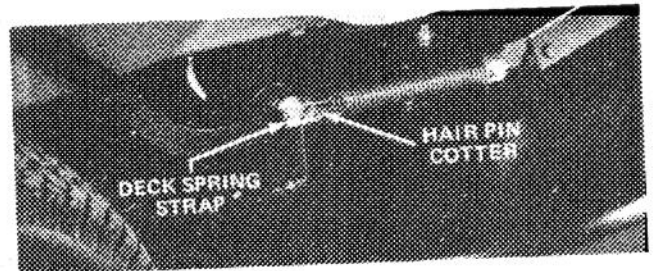

Figure 29
2. Set cutting unit down in lowest height-of-cut position, remove the hair pin cotter and washers securing the deck spring straps on both sides (Fig. 29) and pull straps off clevis pins.